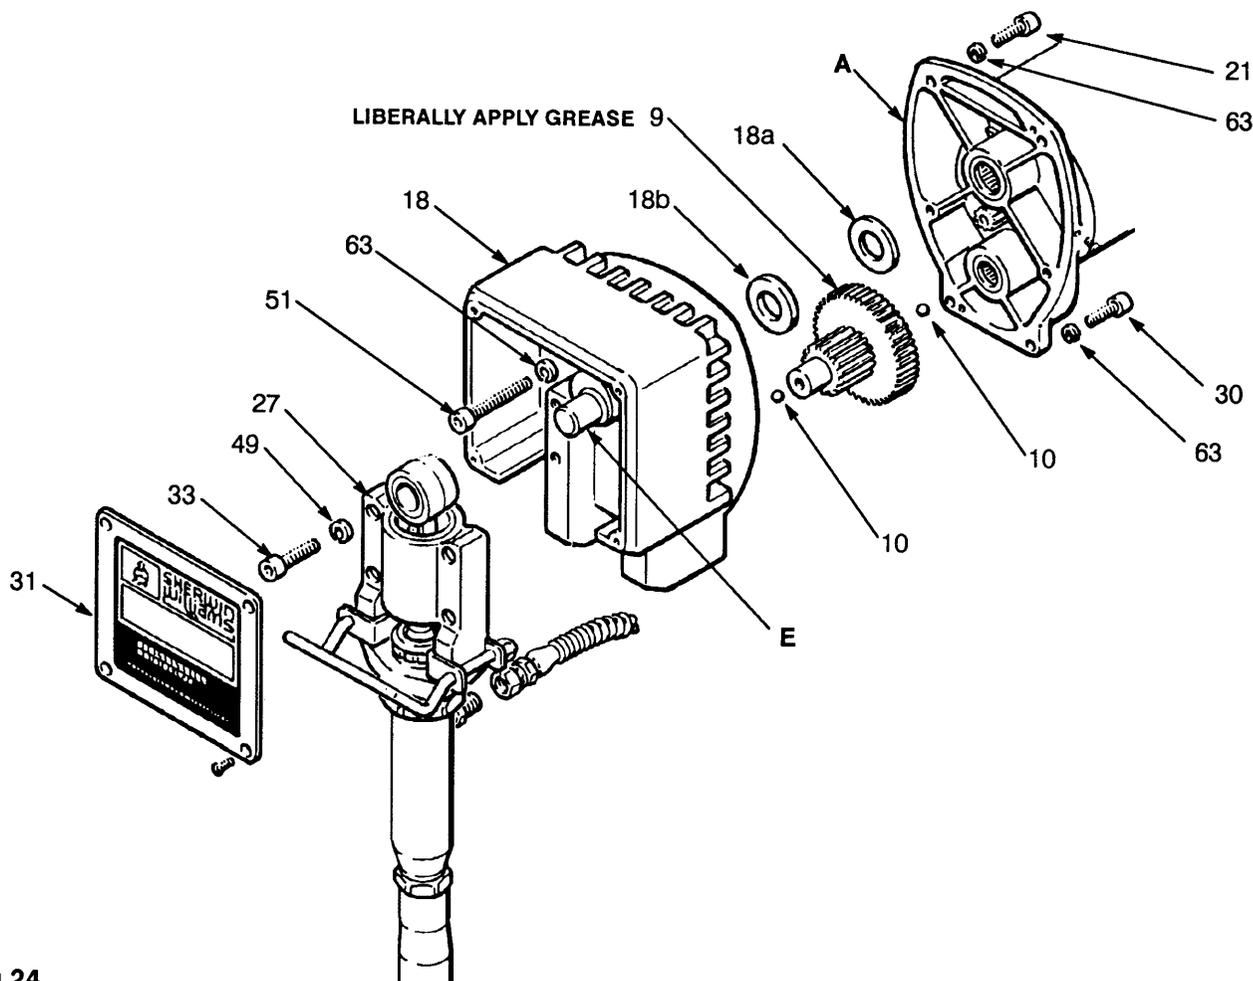

Fig 24
**NOTE:** Refer to Fig 24.
1. Remove the front cover (31). Remove the motor shield (14).
2. Remove the four screws (33) and lockwashers (49) from the bearing housing.
3. Lightly tap the lower rear of the bearing housing (27) with a plastic mallet to loosen it from the drive housing (18). Then pull the bearing housing and connecting rod assembly straight off the drive housing.
4. Remove the two screws (51) and lockwashers (63) from the recess of the drive housing.
5. Remove the two screws (30) and lockwashers (63) from the lower rear of the motor front end bell (A).
6. Remove the two screws (21) and lockwashers (63) from the upper rear of the motor front end bell (A).
7. Tap the drive housing (18) with a plastic mallet to loosen it from the front end bell (A), then pull it straight off.